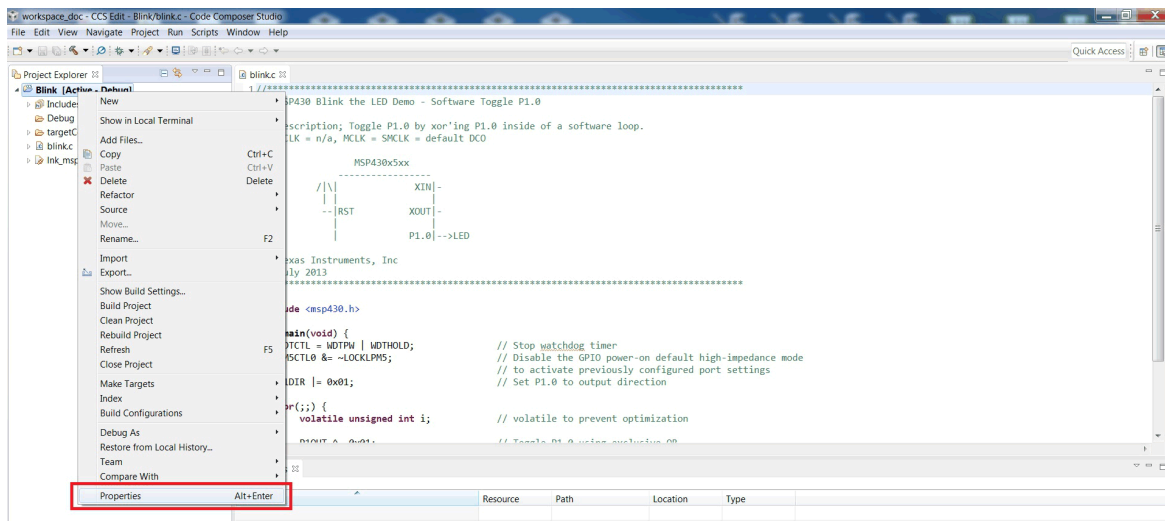

Figure 2. CCS – Project Properties
1. In the CCS project (Figure 2 shows the Blink LED project example), right click the Project and select **Properties**.